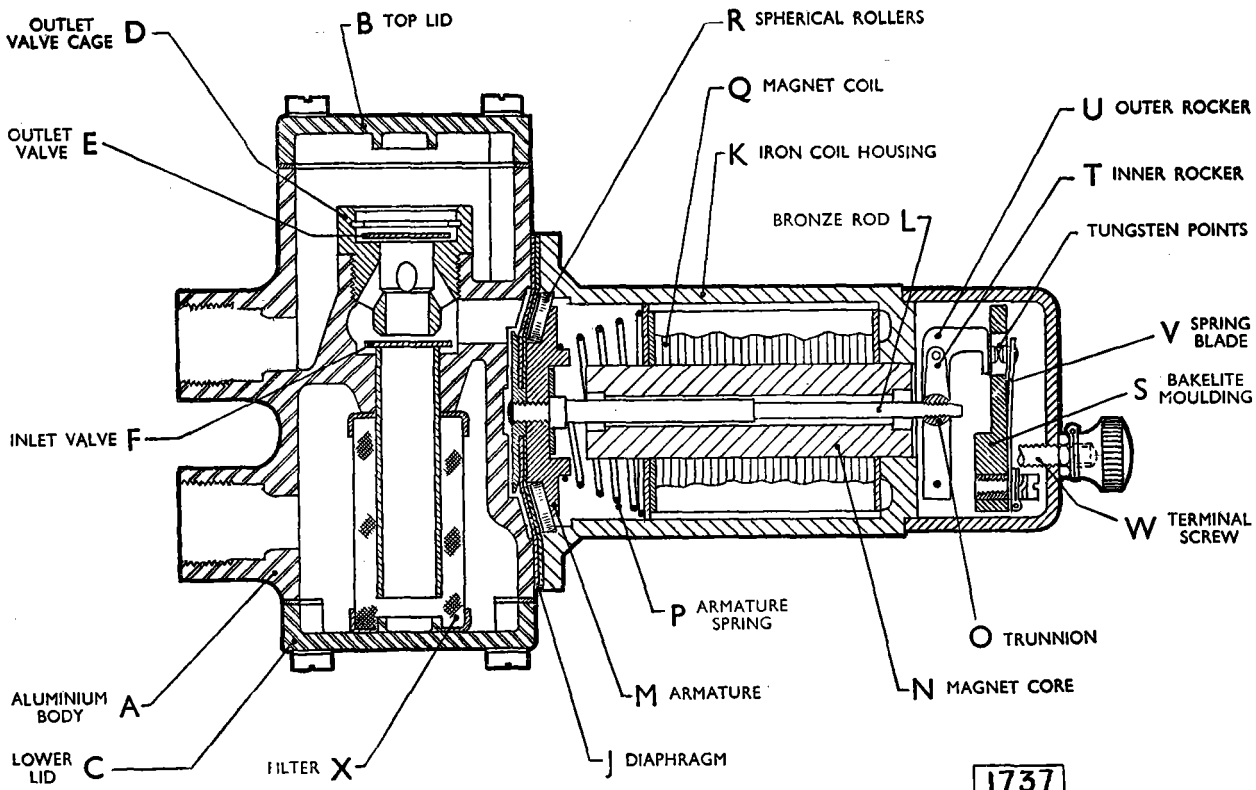

Fig. 20. Sectioned view of the petrol pump.
The body (A) (Fig. 20) is an aluminium die-casting, to which is attached by 2 B.A. screws, two identical lids ("B" the top and "C" the lower), the lower one retaining the filter. The top lid gives access to the cage "D" for the outlet valve "E", and, when the cage is unscrewed, to the inlet valve "F" also. These inlet and outlet valves are thin brass discs and should be assembled smooth side downwards—the outlet valve can be extracted (rarely necessary) after the spring circlip has been detached, and care should be taken not to distort this circlip or the valve lift may be affected. A hole connects the space between the valves to the pumping chamber, which is a shallow depression